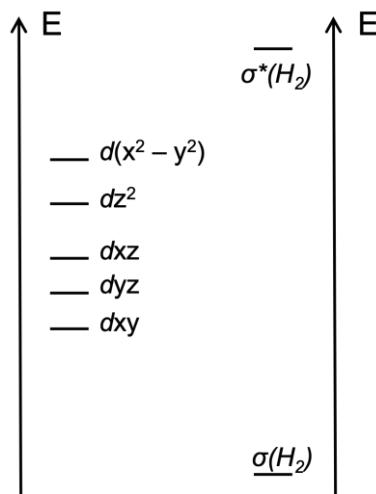

Figure 1: Simplified diagram of molecular orbitals of the Kubas complex
10. Fill in the diagram in figure 1 with electrons.